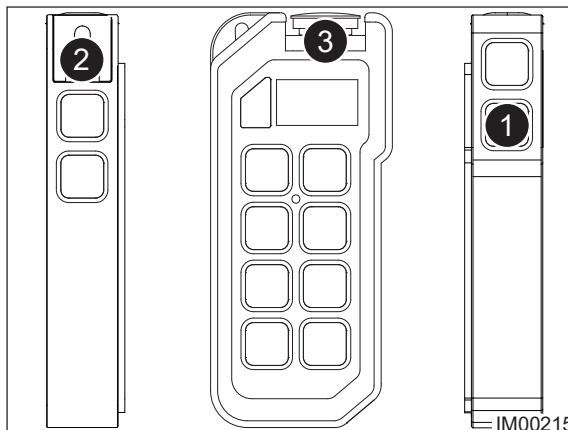

Fig: 9.4 - Radio Remote
3. On the radio remote handset, press the Auto Run button (Item 1, Fig: 9.4).
4. Place the Toggle switch (Item 2, Fig: 9.4) in the middle, OFF position.
6. Turn off the radio remote handset by pressing the Red Stop button (Item 3, Fig: 9.4).